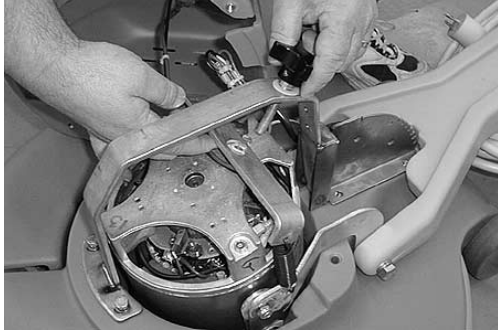

Fig. 7
7. Remove knob, stud and nylon washer from brackets (Figure 7). *NOTE: When replacing stud, thread nut until two stud threads protrude through nut.*